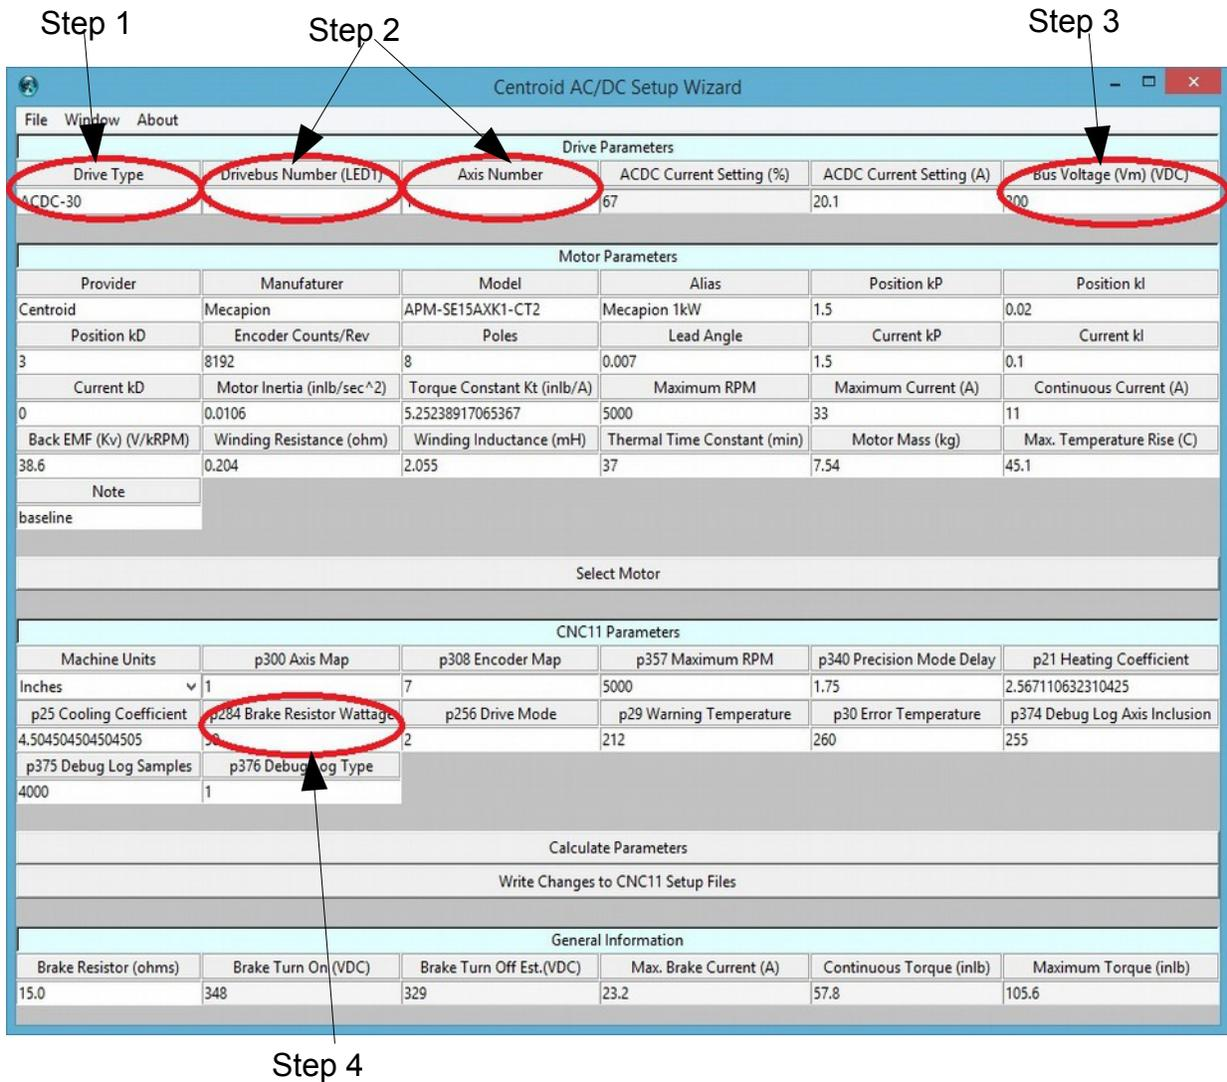

Figure 3.3.8
1. Under **“Drive Parameters”** use the **“Drive Type”** dropdown box to select your model of AC/DC as circled below in Figure 3.3.8.